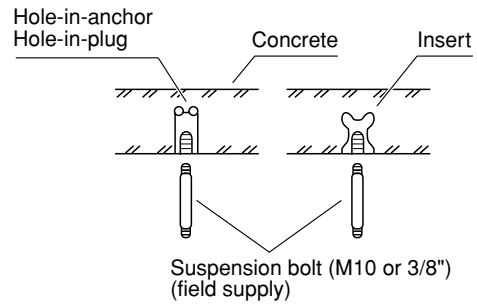

Fig. 3-1
(1) Fix the suspension bolts securely to the ceiling using the method shown in the diagrams (Figs. 3-1 and 3-2), by attaching them to the ceiling support structure, or by any other method that ensures that the unit will be securely and safely suspended.